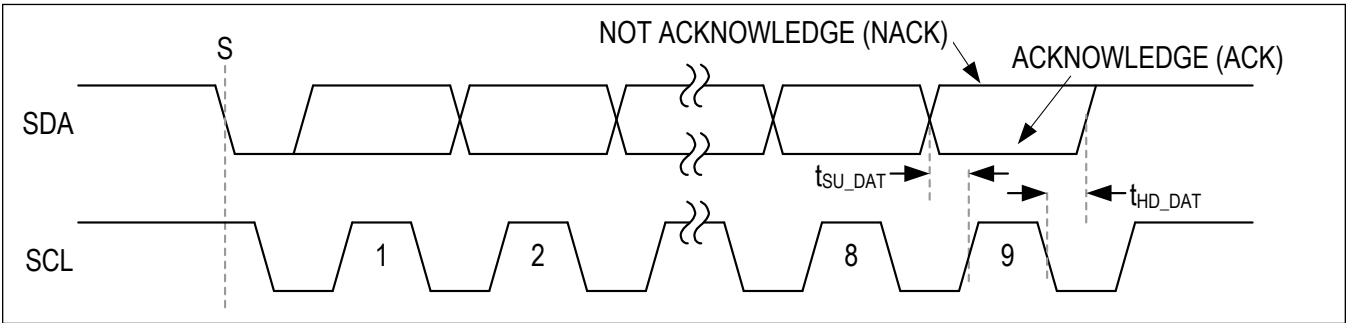

Figure 30. Acknowledge Bit
Both the I2C bus master and slave devices generate acknowledge bits when receiving data. The acknowledge bit is the last bit of each nine bit data packet. To generate an acknowledge (A), the receiving device must pull SDA low before the rising edge of the acknowledge-related clock pulse (ninth pulse) and keep it low during the high period of the clock pulse. See Figure 30. To generate a not-acknowledge (nA), the receiving device allows SDA to be pulled high before the rising edge of the acknowledge-related clock pulse and leaves it high during the high period of the clock pulse.